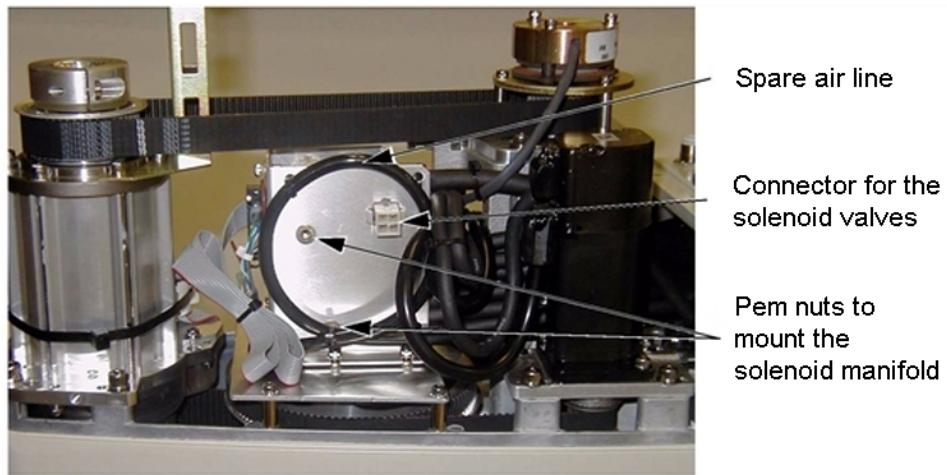

Figure 6-10. Solenoid Mounting Bracket with Connector and Spare Air Line
4. Cut and discard the cable ties holding the spare air line at the top of the mounting bracket. Move the air line away to facilitate the mounting of the solenoid manifold. See Figure 6-10.